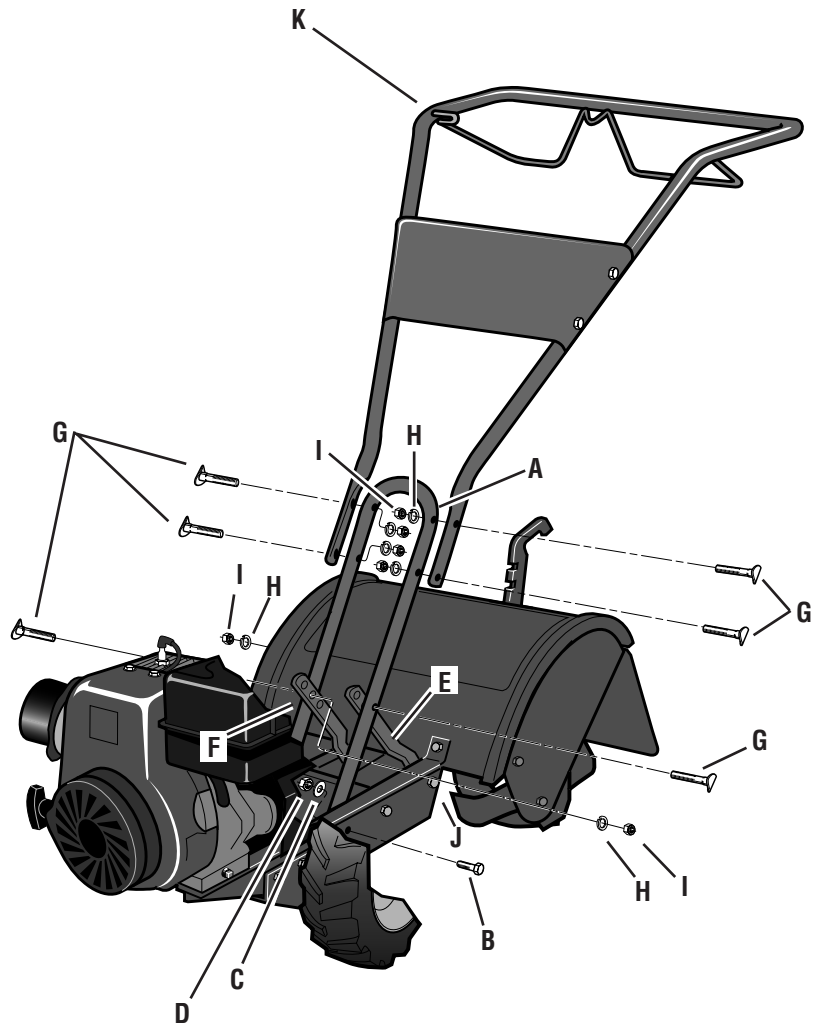

Fig. 2-2: Attach handlebar.
1	Handlebar Support (see A, Fig. 2-2, page 7)
1	Handlebar Assembly (see K, Fig. 2-2)
1. Attach the two legs of the handlebar support (A, Fig. 2-2) loosely to the inner sides of the tiller frame using two 3/8"-16 x 3/4" hex hd. screws (B), 3/8" flat washers (C) and 3/8"-16 hex locknuts (D).
2. Using the middle holes in the handlebar support brackets (E and F, Fig. 2-2), loosely attach the support brackets to the handlebar support (A) using two 5/16"-18 x 1-1/2" curved hd. screws (G), 5/16" split lockwashers (H) and 5/16"-18 hex nuts (I). NOTE: If a support bracket will not move, loosen attaching screw (J) and nut.
3. Attach the handlebar assembly (K) to the handlebar support (A) using four 5/16"-18 x 1-1/2" curved hd. screws (G), 5/16" split lockwashers (H) and 5/16"-18 hex nuts (I). Tighten the four screws securely.